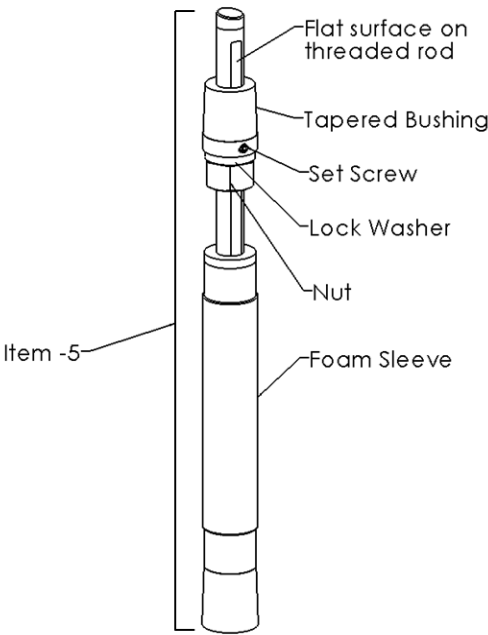

FIGURE 3
Before securing the pole product between the floor and the ceiling, make sure the set screw is aligned with the flat surface on the threaded rod. IMPORTANT: Set screw should not be tightened at this point. The tapered bushing must be able to slide up and down the threaded rod. (See Figure 3)
14.Using the wrench (Item-7), tighten the nut on Item-5 until Item-1 securely engages the ceiling. (See Figure 3)
15.After pole is secured between the floor and the ceiling, use the Allen wrench (Item-8) to tighten the set screw against the flat surface of the threaded rod. (See Figure 3)
16.Slide foam sleeve upwards to cover the threaded rod and tapered bushing described in Figure 3.